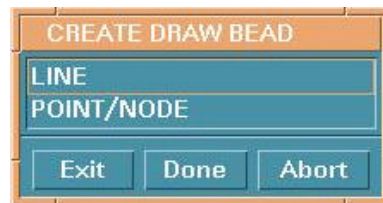

Figure 5.3.3 Create Draw Bead
- Select OK to close the window. The dialog window CREATE DRAW BEAD will display, see Figure 5.3.3.
- To end this function and return to the DRAW BEAD window (Figure 5.3.3) select ABORT.